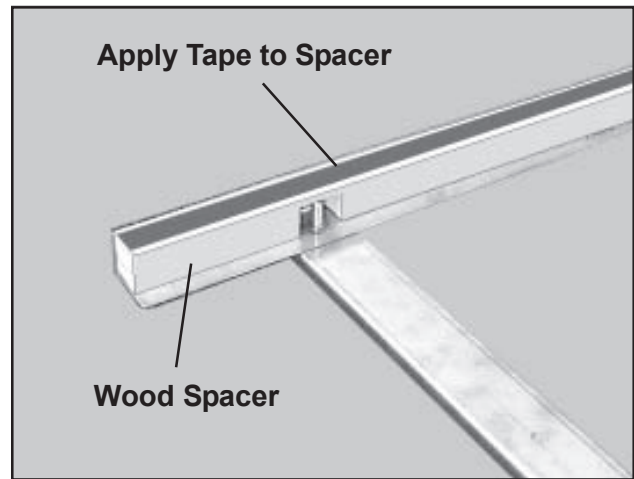

Figure 8. Wood Spacer in Place on the Frame Rail
3. Place the wood spacers onto the frame rails with the notches over the crossmember and diagonal brace connections (Figure 8). Make sure that the spacers are up against the vertical flanges of the frame rails. Press the spacers firmly onto the tape.